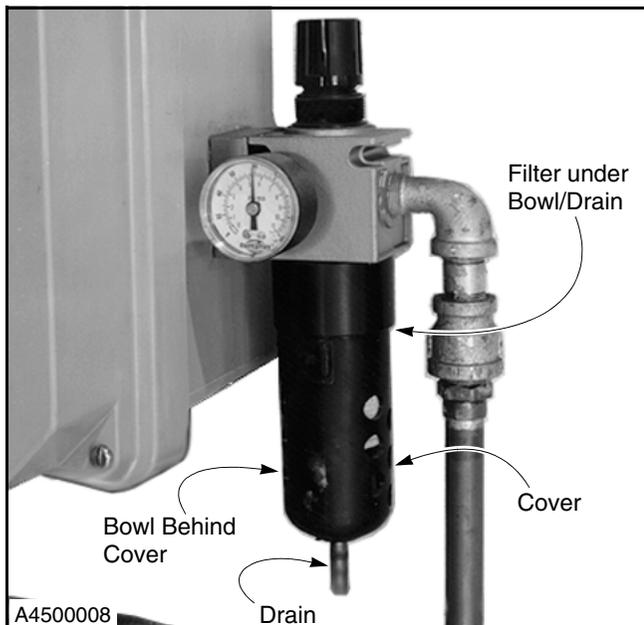

Figure 13
2. Remove the cover, bowl/drain and filter. (See Figure 13.)